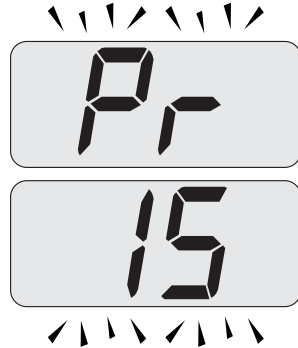

Fig. 7.18
- Scroll the various parameters using keys 16 or 17 until the letters **Pr** that alternate with code **15** are displayed on the LCD display, indicating that "parameter 15"(Fig. 7.18) has been activated.
- Press keys 15 and 16 (Fig. 7.16) at the same time to exit without changing the value (return to the parameters list Fig. 7.18)